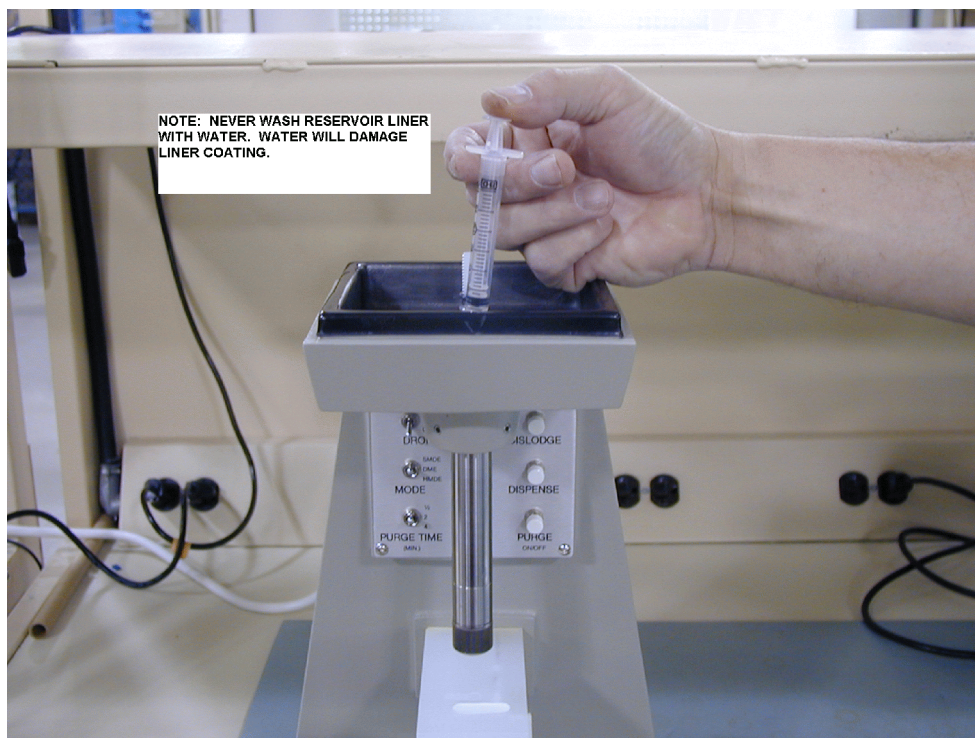

Figure 3-4, Reservoir Filling with Syringe
4. Set the rear-panel DISLODGE adjustment fully counterclockwise. Then press and hold in the Model 303A DISPENSE pushbutton (system must be powered). While it is held in, incrementally inject mercury (about 0.5 ml at a time) into the small hole in the floor of the reservoir directly above the valve assembly (Figure 3-4). Allow several seconds after each injection to allow any trapped air bubbles to clear. Some operators find it convenient to tape the DISPENSE button down.